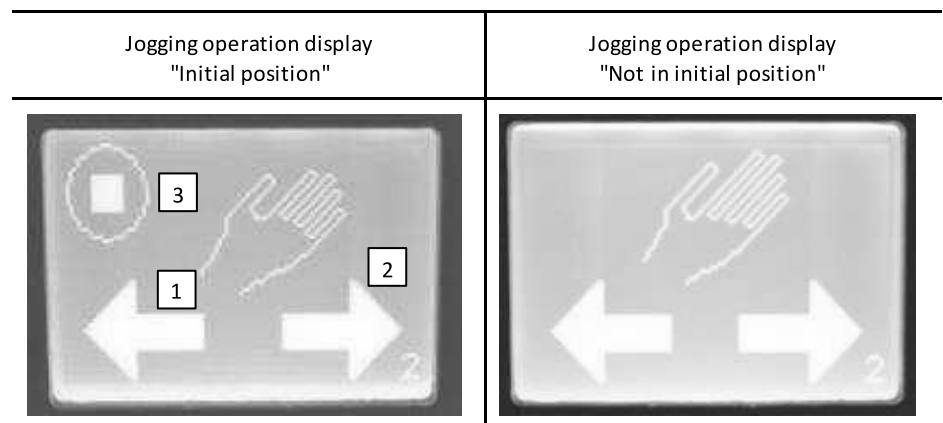

Fig. 11: Jogging operation
- Traverse backwards (see fig. 11, item 1) or forwards (see fig. 11, item 2) in jogging operation using the arrow keys.
- Traverse the machine manually until the initial position (see fig. 11, item 3) is reached again.